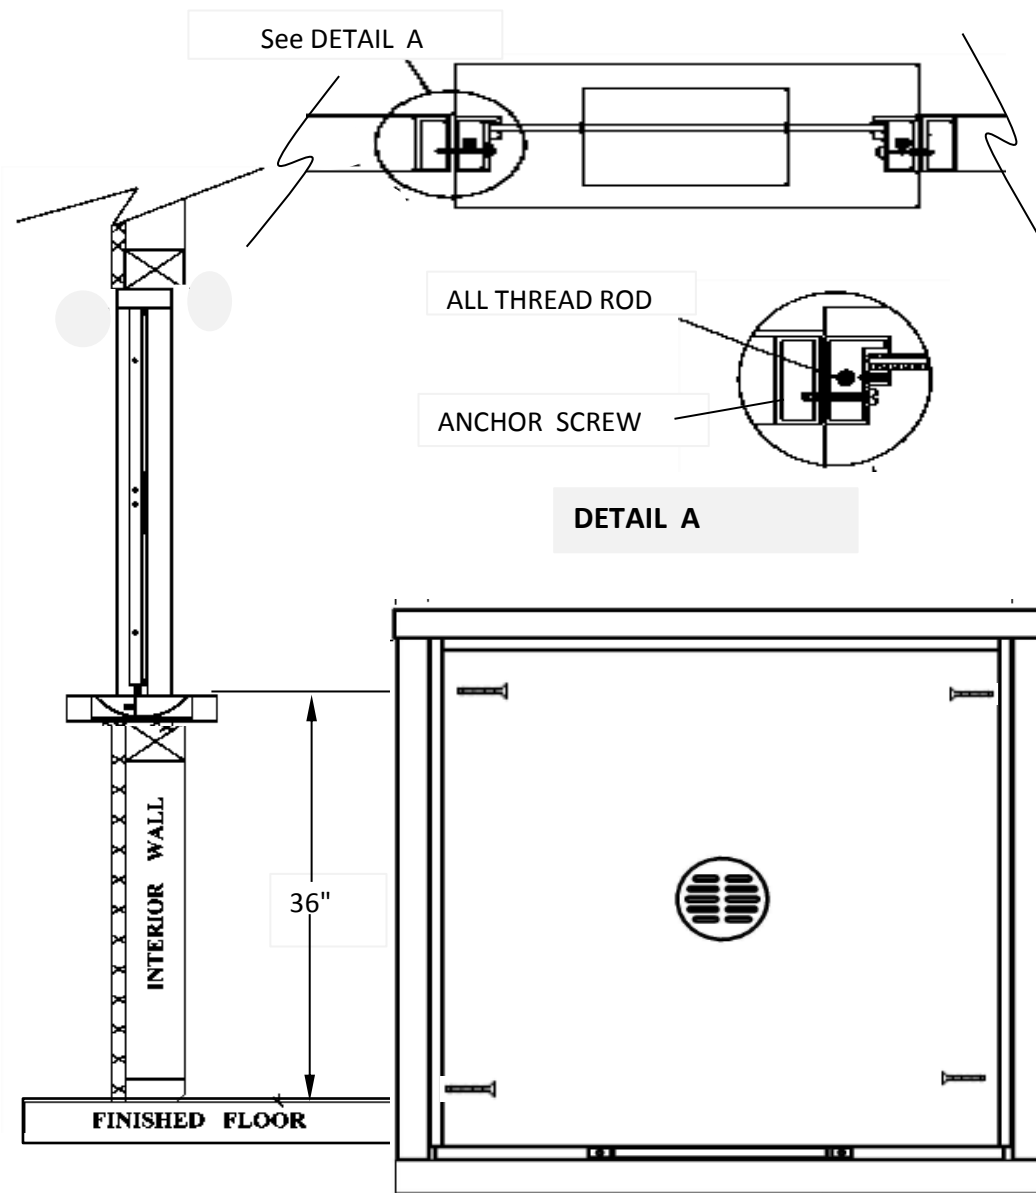

FIGURE 1
- 2) Anchor through each side jamb through the pre-drilled holes. (See Figure 1)